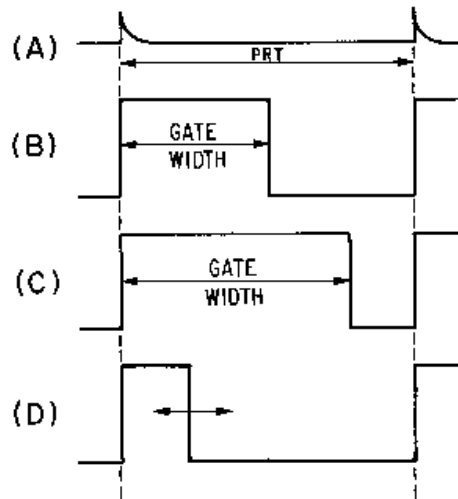

Figure 3-16.—Monostable multivibrator waveforms with a variable gate.
Note that  $R_3$  is variable to allow adjustment of the gate width. Increasing  $R_3$  increases the discharge time for  $C_1$  which increases the cutoff time for  $Q_2$ . Increasing the value of  $R_3$  widens the gate. To decrease the gate width, decrease the value of  $R_3$ . Figure 3-16 shows the relationships between the trigger and the output signal. View (A) of the figure shows the input trigger; views (B) and (C) show the different gate widths made available by  $R_3$ . Although the durations of the gates are different, the duration of the complete cycle remains the same as the pulse repetition time of the triggers. View (D) of the figure illustrates that the trailing edge of the positive alternation is variable.